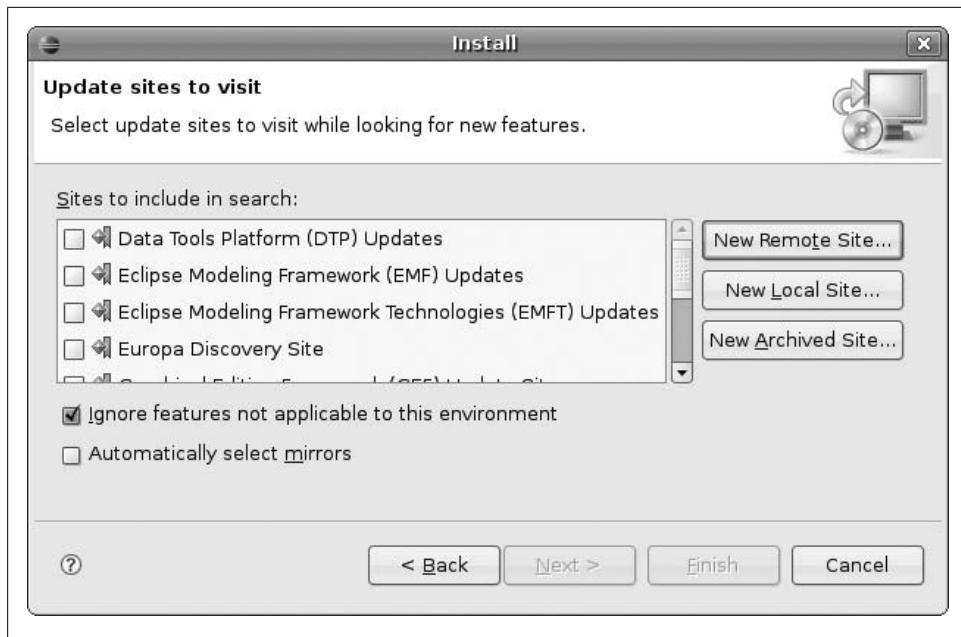

Figure 4-9. Eclipse Install dialog with update sites
3. In the Install dialog, click on the "New Remote Site..." button, which displays a list of update sites (Figure 4-9).